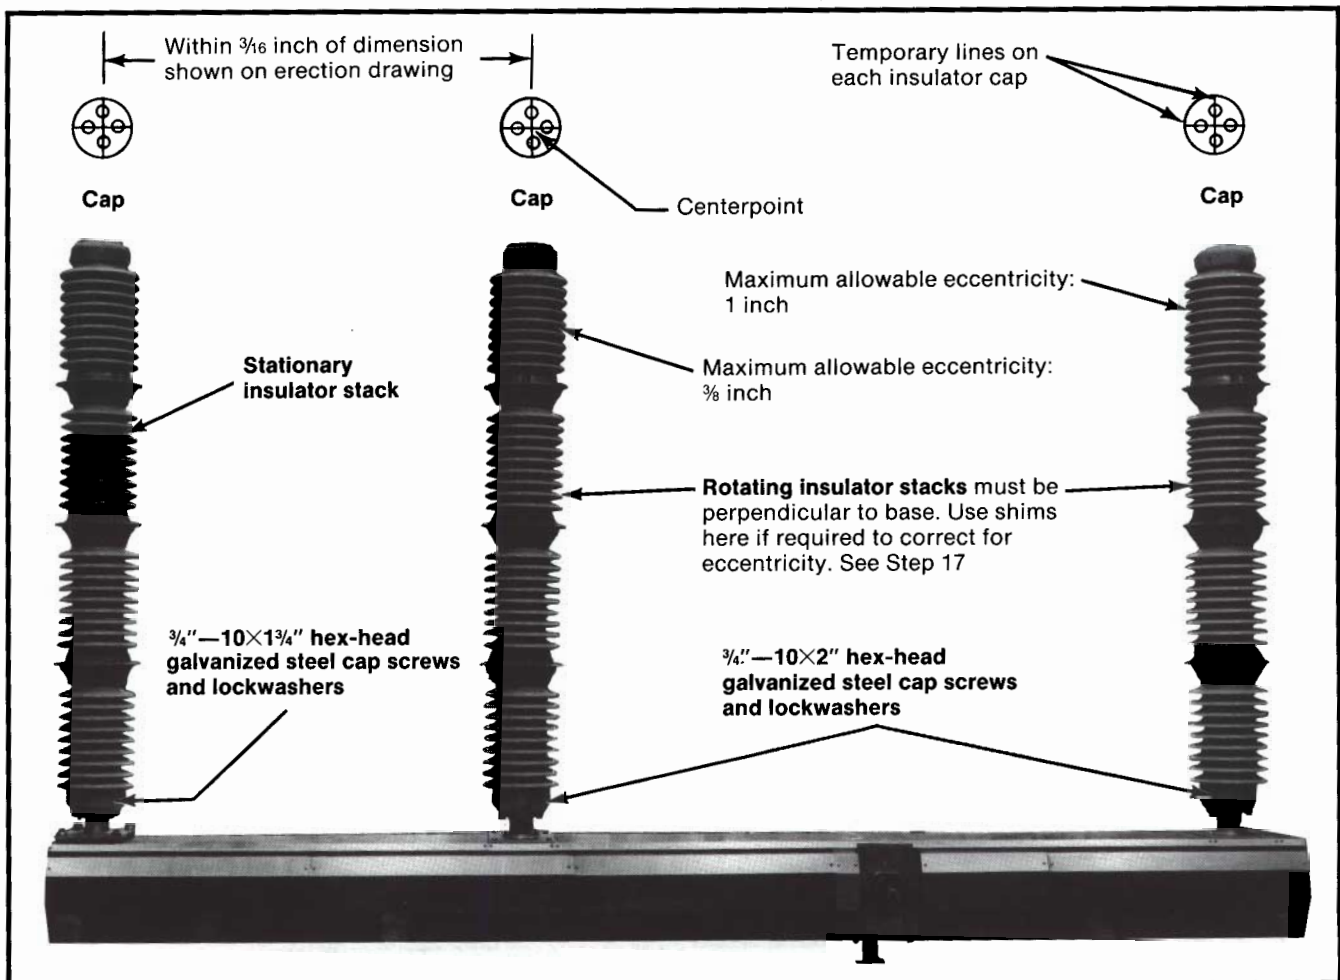

Figure 11. Critical dimension and alignment to be attained by using shims and leveling screws.
Attach the insulator stacks to the pole-unit insulator supports with the galvanized hardware (furnished) as shown in Figure 11. *Securely tighten all cap screws.*
- (a) Locate the centerpoint of each insulator stack by accurately drawing, on the top of the insulator cap, temporary lines which bisect and connect opposite bolt holes. See Figure 11.
- (c) Crank the manual operating handle on the switch operator to rotate the insulator stacks through their full travel. (The full open-close rotational travel of each rotating insulator stack is approximately 95 degrees.) Verify that the centerpoint of each insulator cap does not move more than as specified in Figure 11 and, at the same time, observe the arc of this movement. Any excess eccentricity must be corrected by shimming the insulator stack(s)—the higher up in the stack that the shims are placed,
The stationary insulator stack should be checked for alignment with the rotating insulator stacks by stretching a cord taut across the top of the insulator caps so that it crosses the centerpoint of all three insulator stacks. Then measure the center-to-center distance between the stationary insulator stack and the center rotating insulator stack. See Figure 11. This distance must be within 3/16 inch of the dimension shown on the erection drawing.